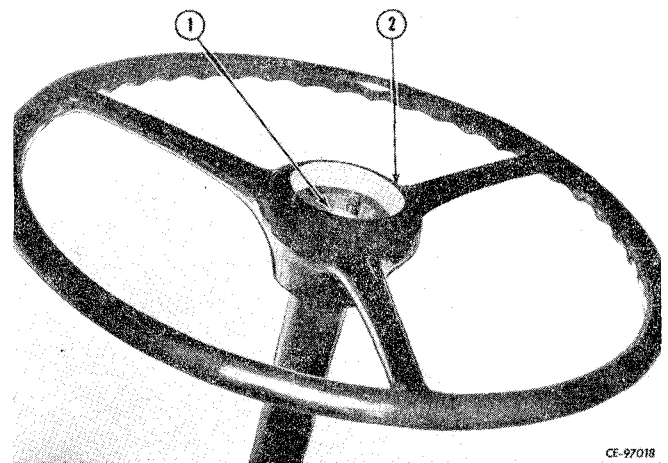

Figure 8-36
Install steering wheel (2, Fig. 8-36), and tighten retaining nut (1) to recommended torque (refer to "SPECIAL TORQUES" under "SERVICE INFORMATION").